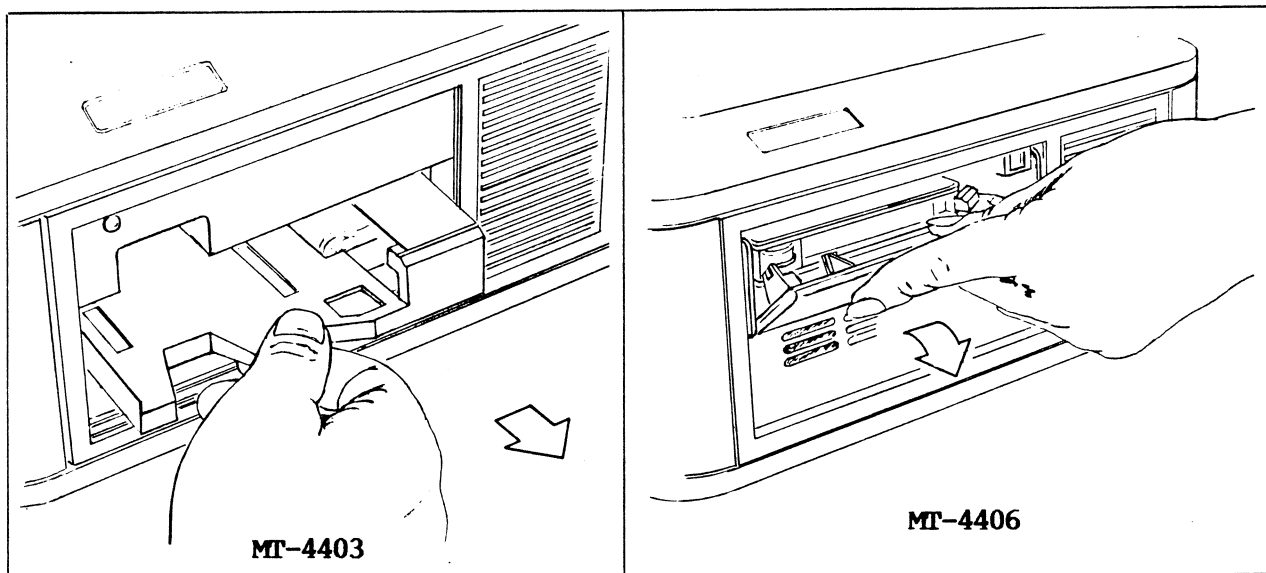
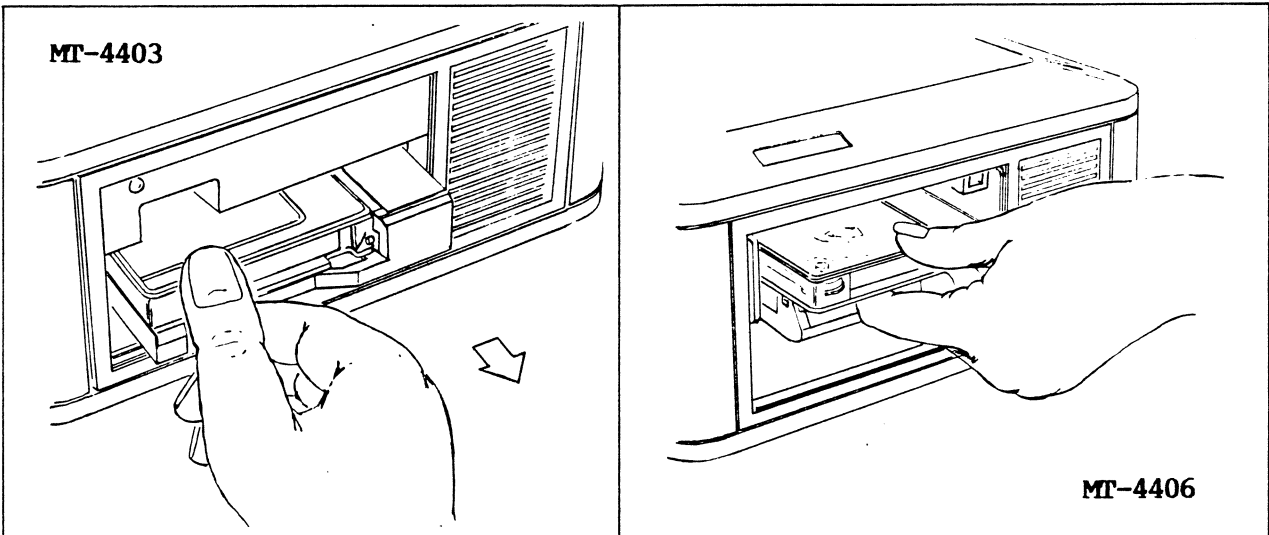

Figure 3-5. Pulling Out Cartridge Tray (MT-4403) or Pushing Down Cartridge Door (MT-4406)
Figure 3-8. Pulling Out Tape Cartridge and Tray (MT-4403) or Grasping Tape Cartridge (MT-4406)
2. MT-4403. Insert your finger in the cartridge slot and gently pull out the cartridge tray (see figure 3-5).
MT-4406. Push the cartridge door down to its full-open position (see figure 3-5).
2. MT-4403. Grasp the cartridge and gently pull out the tray containing the tape cartridge (see figure 3-8).
MT-4406. Push the cartridge door down to its full-open position (figure 3-5) and grasp the tape cartridge (see figure 3-8).